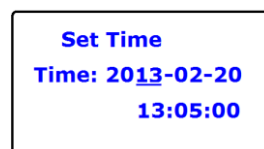
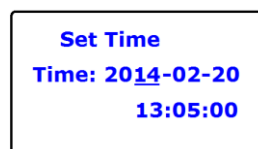

Fig 6.3.7
Fig 6.3.8
- 1) When at the system time interface, the time setting will start from the following sequence: Year -> Month -> Date -> Hour -> Minute. By single knock, the setting will increase 1 unit, for example, increasing 1 year, as Fig 6.3.7 and Fig 6.3.8